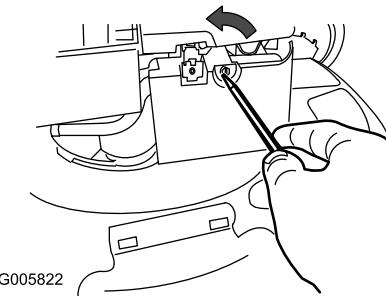

Figure 40
- Use a screw driver to open the air-filter cover (Figure 40).